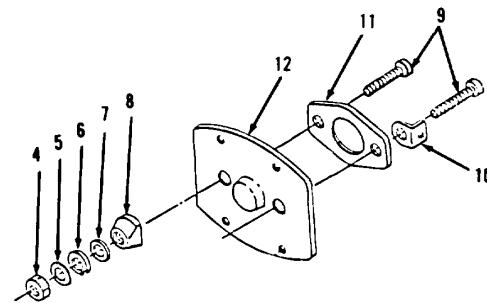

Figure 4-58.
4. Disconnect wire assembly (3) at terminal.
5. Remove items 4 thru 12 as an assembly from housing (20).
6. Remove two nuts (4), washers (5), lockwashers (6), washers (7) and spacers (8, Figure 4-58).